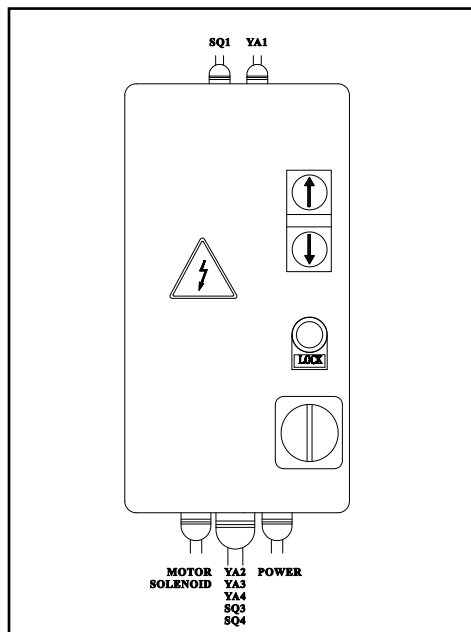

Fig. 34
4.4.3.2 Connect the power and control system to the terminal strip on the control box (**Fig. 34**), inserting the cable into the rack passing through the prepared hole and following the wiring diagram on **Page 23**.
4.4.3.4 Close the cover of the electric box, turn the main switch to position 1, press the up push button (Fig. 34), the motor rotation direction should be the one shown by the arrow on the pump.
The lift Commands (control devices) is shown as **Fig. 34**.